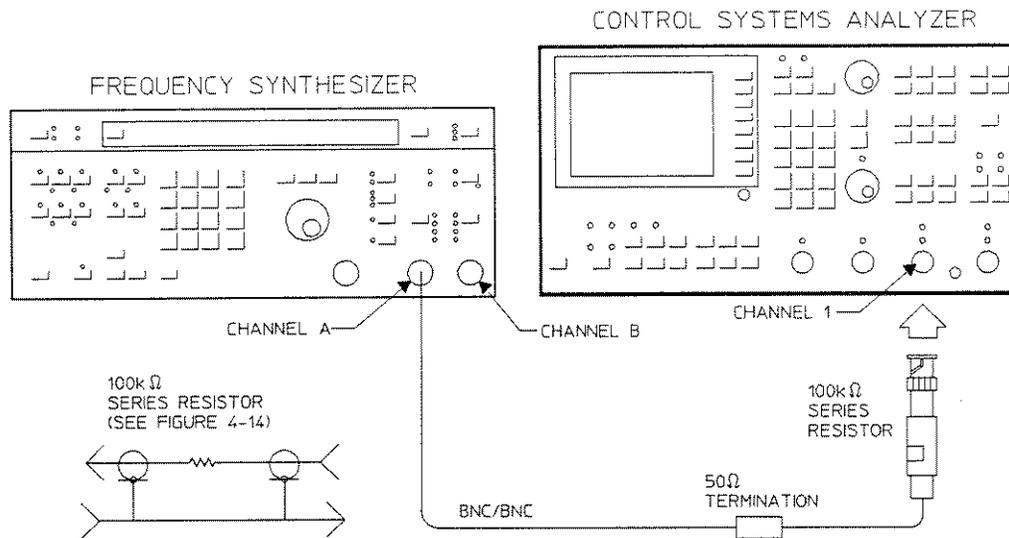

Figure 4-16. Input Capacitance Test Setup
1. Connect the test instruments as shown in Figure 4-16.